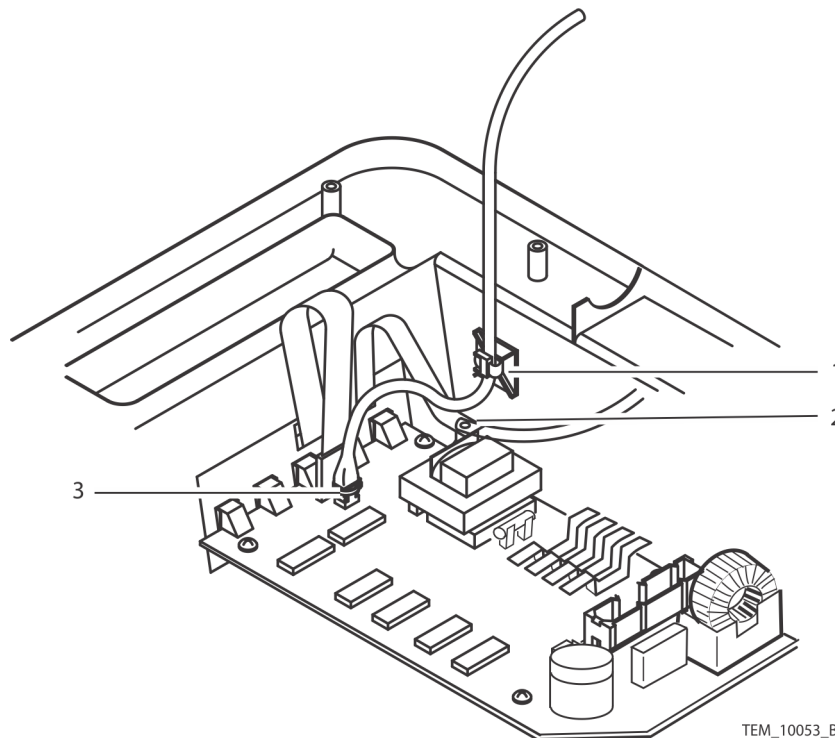

Figure 5-64. Cable Connections
40. Connect the thermistor cable to the Control PCB. See Figure 5-64, item 3.
41. Fasten a cable tie around the thermistor cable connector. See Figure 5-64, item 3.
42. Connect the key pad ground strap and the blower ground wire. Tighten the screw to 4 to 6 in/lbs (10 to 15 cm/kg). See Figure 5-64, item 2.
43. Install the cable tie around the thermistor cable. See Figure 5-64, item 1.